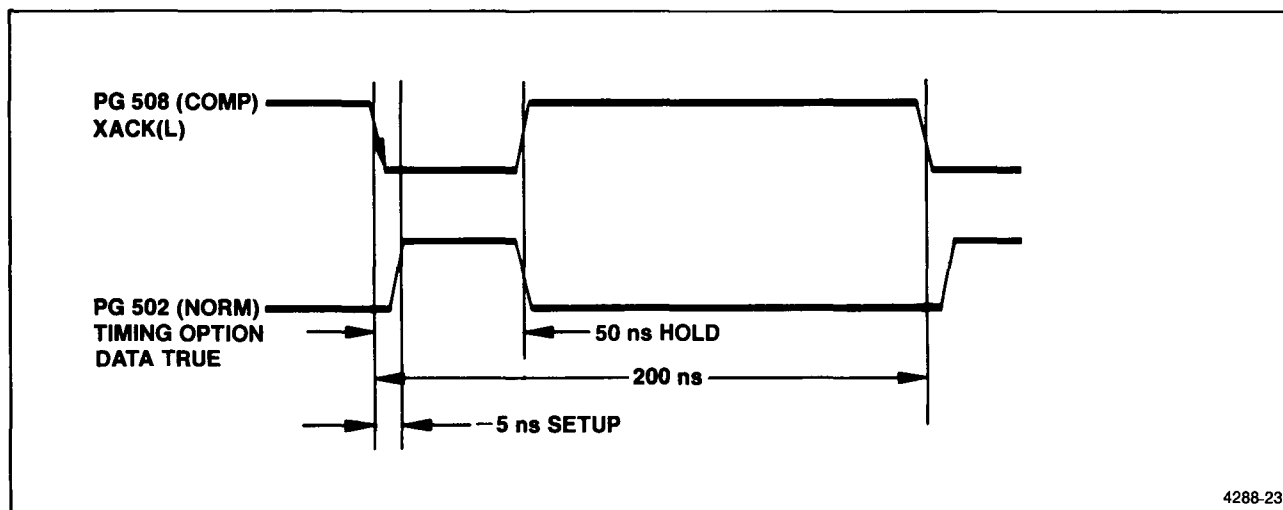

Figure 5-16. Timing Option Data (TRUE) setup and hold time.
8. Adjust the PG 508 Variable Delay knob to align the falling edge of the data pulse from the PG 502 with the rising edge of the XACK(L) pulse from the PG 508. Refer to Figure 5-16.
28. Refer to Figures 5-16 and 5-17.